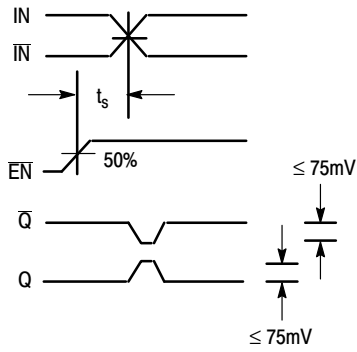

Figure 3. Setup Time
7. The setup time is the minimum time that  $\overline{EN}$  must be asserted prior to the next transition of IN/ $\overline{IN}$  to prevent an output response greater than +75 mV to that IN/ $\overline{IN}$  transition (Figure 3).